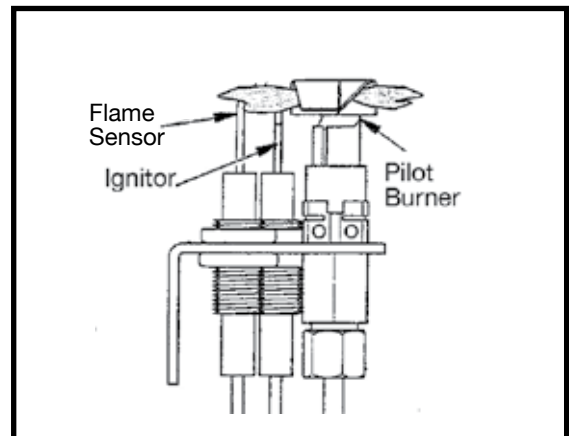

Figure 12.1
When lit for the first time, the appliance will emit a slight odor for an hour or two. This is due to paint and lubricants used in the manufacturing process. The main burner flame characteristics are steady, not lifting or floating. Typically, the top 1/4 inch of the flame sensor should be engulfed in the pilot flame. A periodic check of these characteristics is necessary (Figure 12.1).
**To obtain proper operation, it is imperative that the pilot and main burner flame characteristics are steady, not lifting or floating. Typically the top 1/4 Inch of the flame sensor should be engulfed in the pilot flame. (Figure 12.1)**